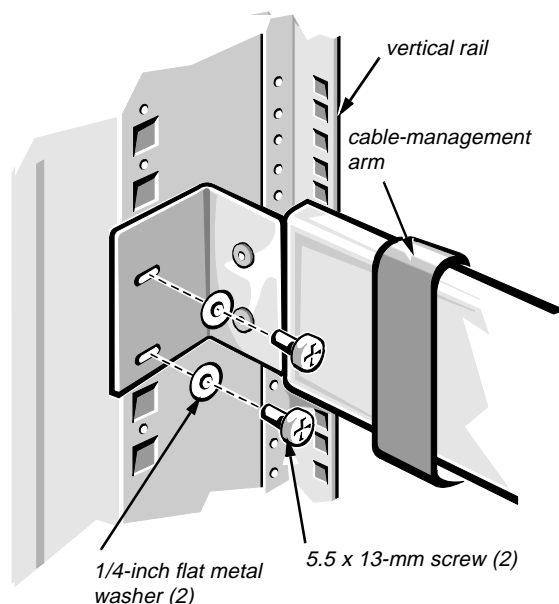

Figure 2-14. Securing the Cable-Management Arm
8. Secure the loose end of the cable-management arm to the back vertical rail (see Figure 2-14).